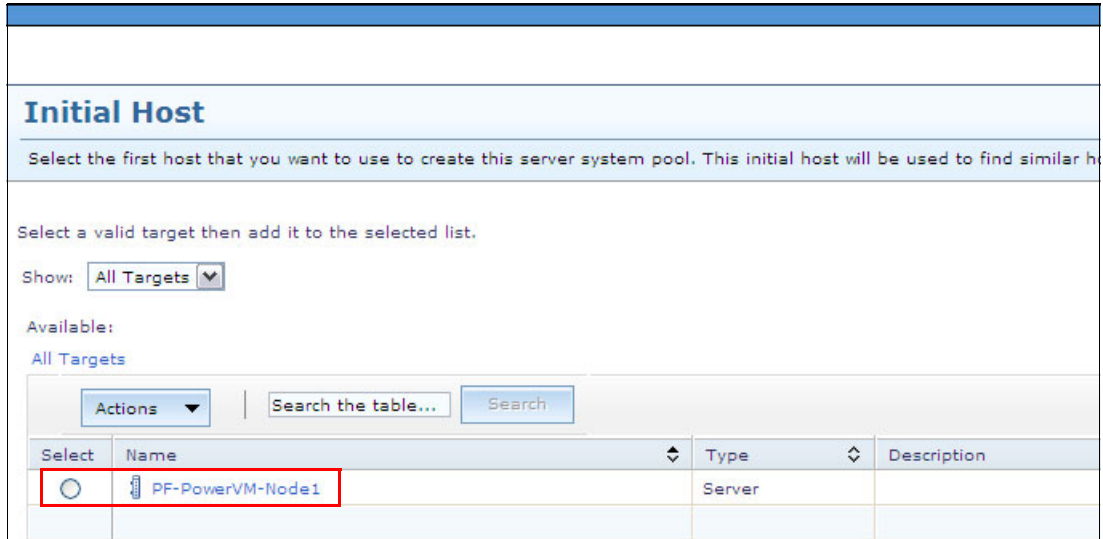

Figure 10-104 Selecting a physical server (part 1 of 2)
3. Select a physical system to use as a pool as shown in Figure 10-104.